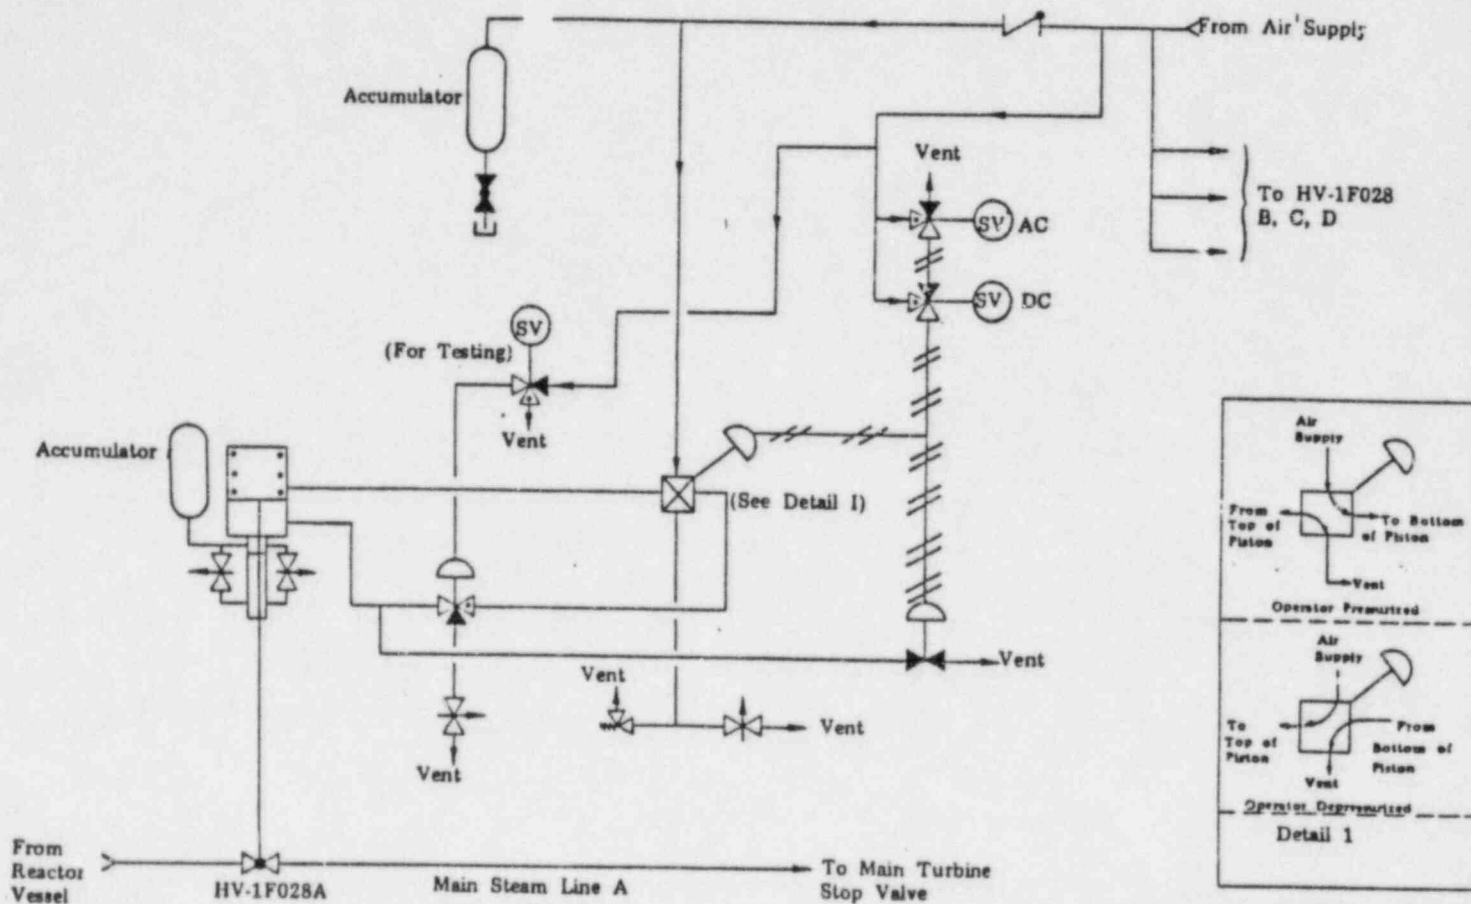

Figure 2.1 MSIV Control Air Simplified Diagram
- 2.1 For the Main Steam Isolation Valves diagrammed in Figure 2.1, briefly describe the operation of the valve operating air system. Using the figure, and identifying the specific components, explain how this system operates for